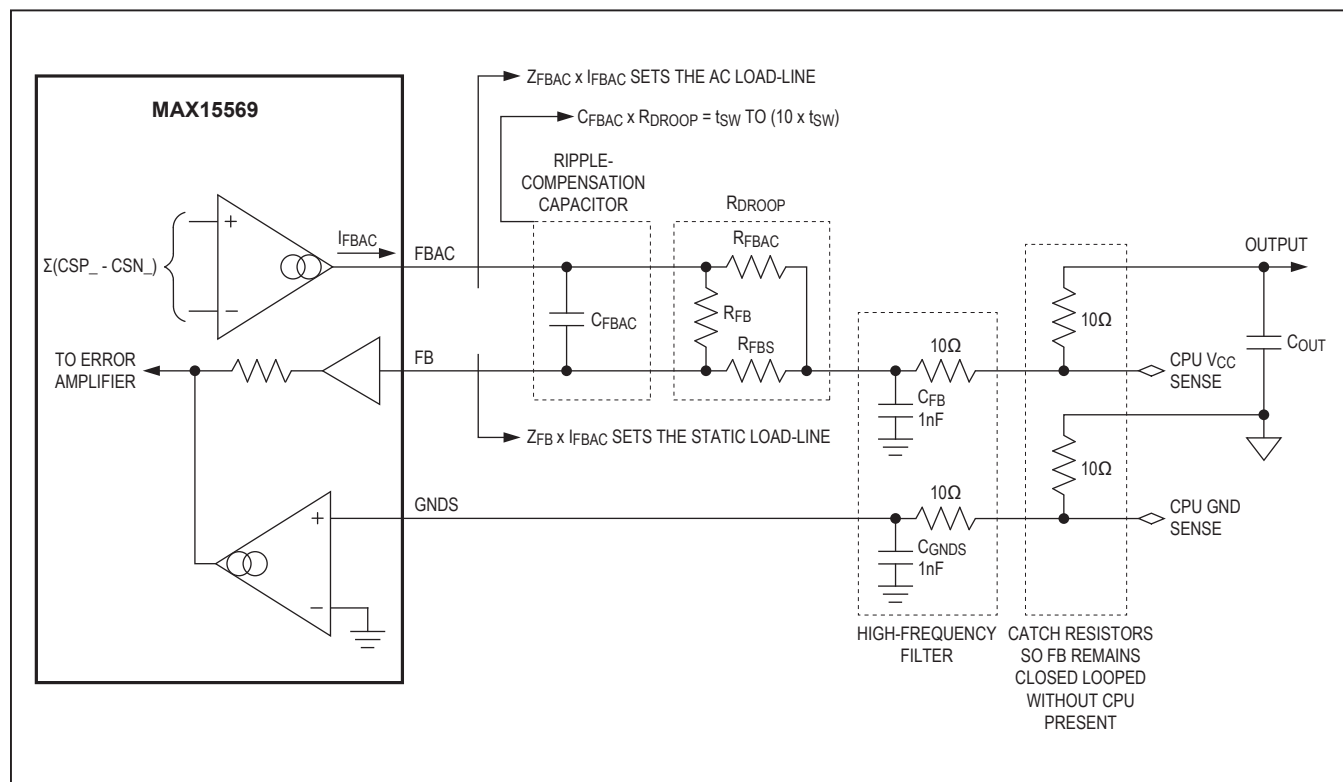

Figure 6. FB Network (Load-Line Control and Remote Sensing)
The device includes a transconductance amplifier for controlling the load-line regardless of the sense impedance value. The input signal of the amplifier is the sum of the current-sense voltages (V_{CSP1} , V_{CSN1} , and V_{CSP2} , V_{CSN2}), which differentially sense the current-sense voltage. See Figure 6.
- The effective impedance (Z_{FB}) between the feedback-sense input (FB) and the positive side of the feedback remote sense sets the static (DC) droop.
- An integrator on FB corrects for output ripple and ground-sense offset (see Figure 6).
*See Figure 6.
The device includes differential, remote-sense inputs to eliminate the effects of voltage drops along the PCB traces and through the power pins of the processor. The feedback-sense node connects to the load-line resistor/capacitor network (R_{DROOP}/C_{FBAC}). The ground-sense (GNDS) input connects to an amplifier that adjusts the feedback voltage to counteract the voltage drop in the ground plane. Connect the load-line resistor (R_{DROOP}) and ground-sense (GNDS) input directly to the remote-sense outputs of the processor, as shown in Figure 6. The correction range is bounded to less than ±200mV. The remote-sense lines draw less than ±0.5µA to minimize the offset errors.